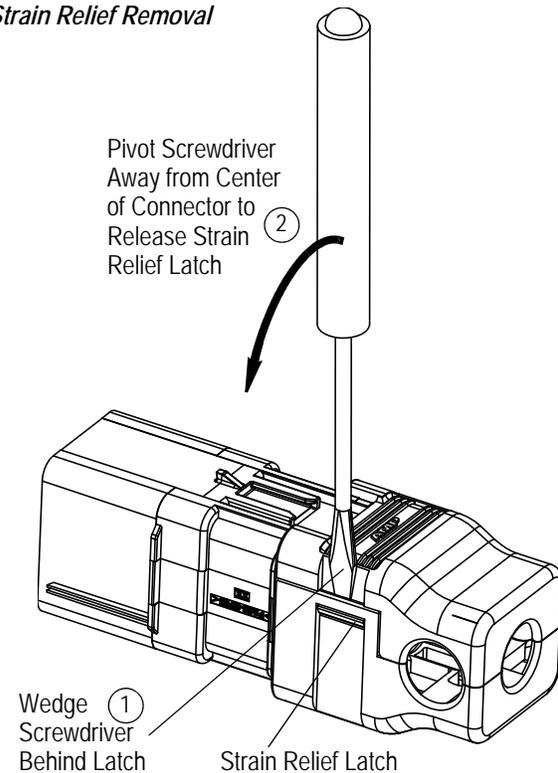

Figure 7
2. Identify the strain relief latch and place a small screwdriver (flat-blade approx. 2.0 mm [.079 in.] wide) under the latch. See Figure 7.